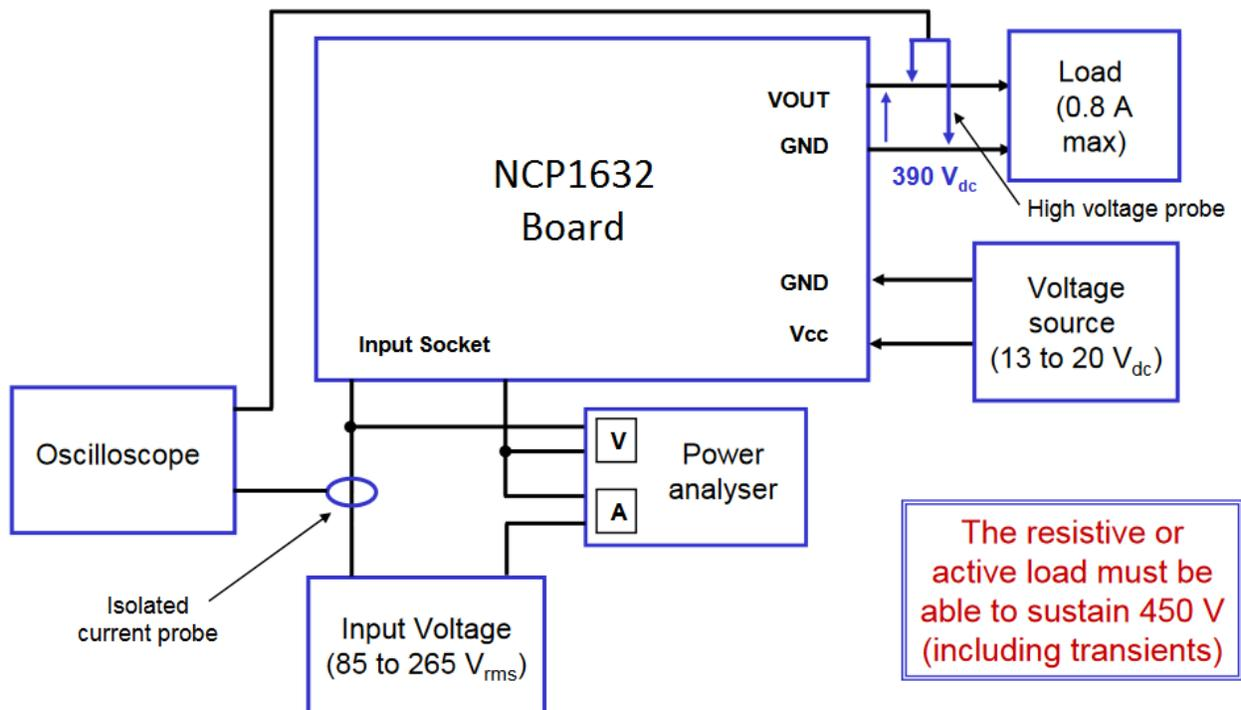

Figure 2 – Board Connections for Testing
- 6) The digital power meter is connected at the input with the current meter in series with the supply and voltage meter across the input terminals as shown in Figure 2.